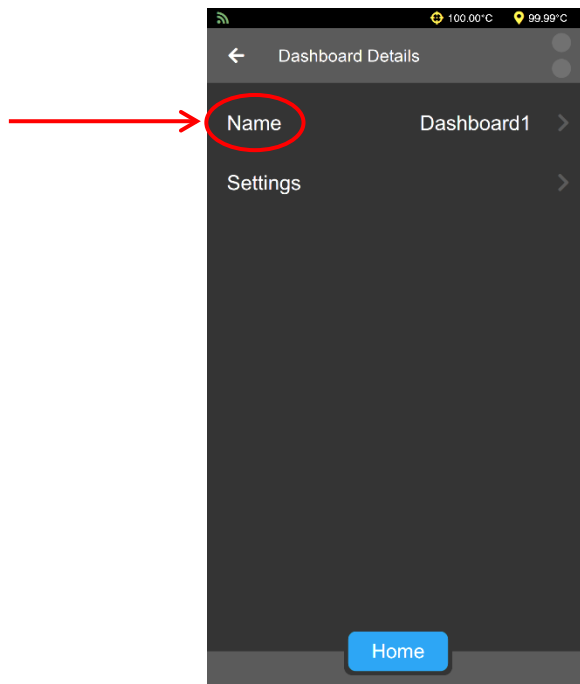

Figure 56: Dashboard Details Screen
4. Select **Name** to edit name. See Figure 56.